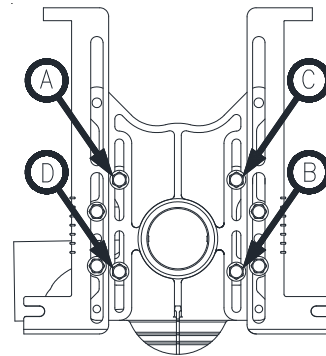

Fig. 3
3. Remove the faceplate/feet from trim kit box and align the faceplate slots with the gasket and fitting holes. Using four ½" [13mm] bolts from the Fitting & Faceplate hardware bag, secure the bolts with a ratcheting wrench and snug tight, tightening them in the pattern shown (A thru D). See Fig. 3